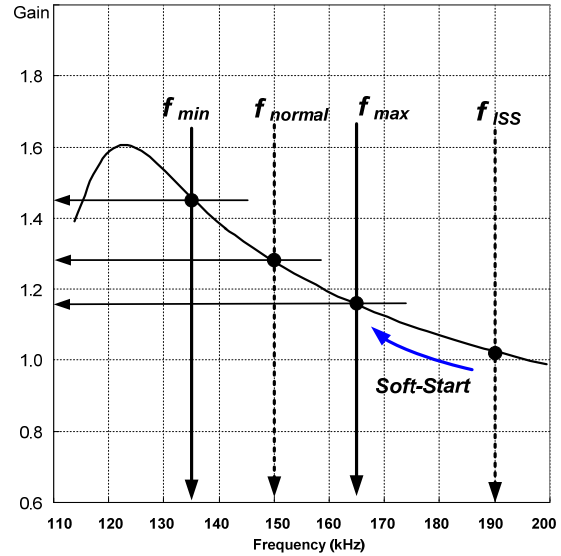
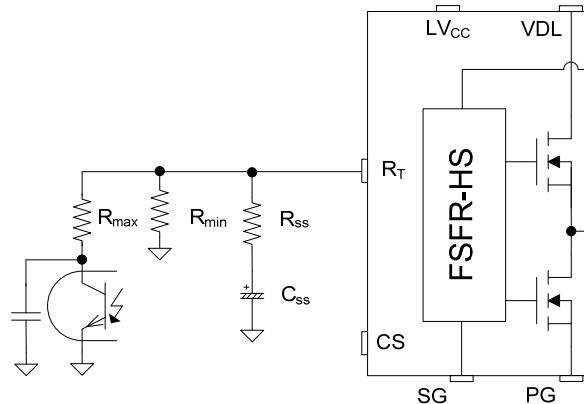

Figure 20. Resonant Converter Typical Gain Curve
Figure 21. Frequency Control Circuit
3. Frequency Setting: Figure 20 shows the typical voltage gain curve of a resonant converter, where the gain is inversely proportional to the switching frequency in the ZVS region. The output voltage can be regulated by modulating the switching frequency. Figure 21 shows the typical circuit configuration for the RT pin, where the opto-coupler transistor is connected to the RT pin to modulate the switching frequency. The switching frequency may be controlled from 20 kHz to 500 kHz.
The soft-start circuit is constructed by connecting R-C series network to the RT pin, as shown in Figure 21. Initially, the operating frequency is set by the parallel impedance of R_{SS} and R_{min} .